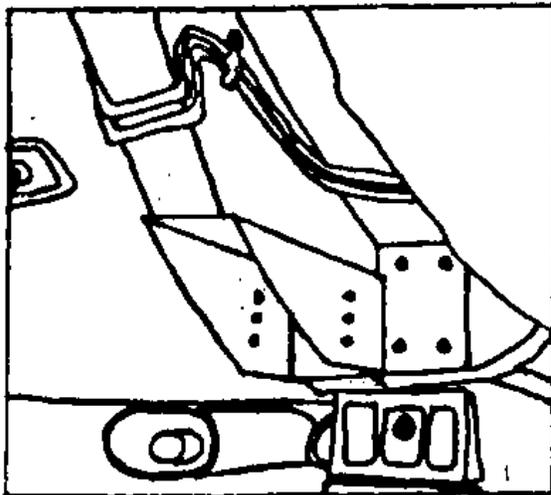

Figure 3
7. Place completed box in frame cut-out and keeping inboard as far as possible for more tire clearance, tack weld in place when boxes are in and appear correct, finish welding all around making sure not to concentrate too much heat in one area. See Fig. 3.